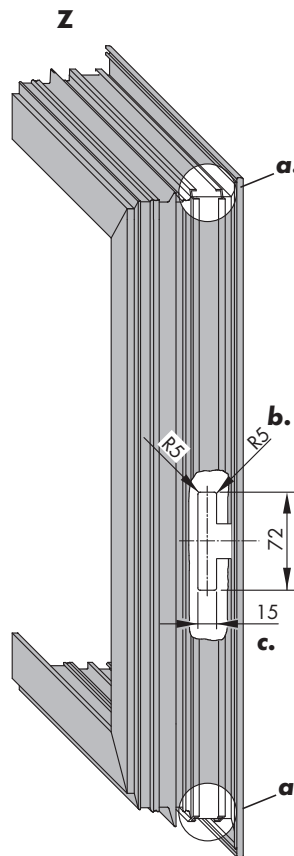

Figure 2
- a.** Open operating rod guiding groove (Figure 2).
- c.** Processing for rebate heights 8 mm, 9 mm and 10 mm (Figure 2).